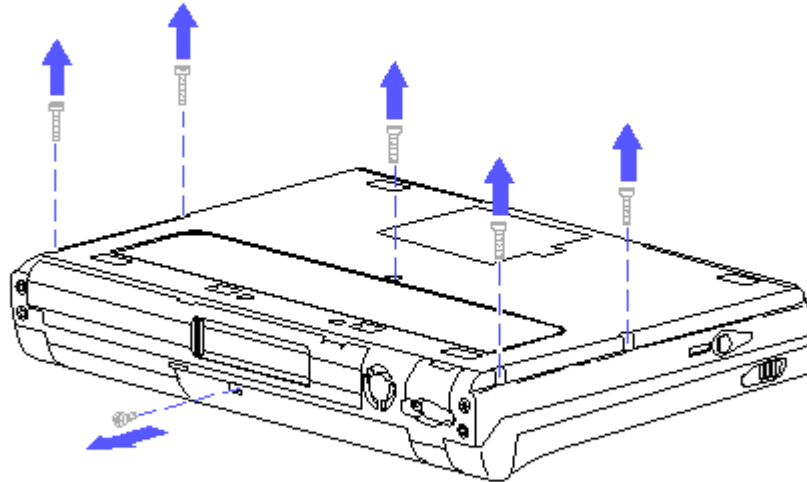

Figure 4-5. Removing the Keyboard Cover Screws
2. Remove the five screws located on the bottom and the one screw (shorter than the other five) located near the external options connector on the rear panel (Figure 4-5).